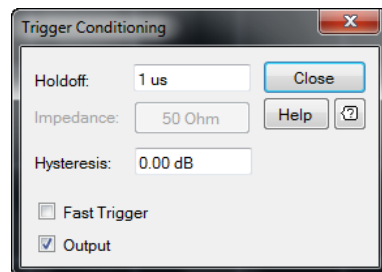

Figure 2-88 Trigger Conditioning dialog
- 6 The Trigger Conditioning dialog is displayed as shown in Figure 2-88.